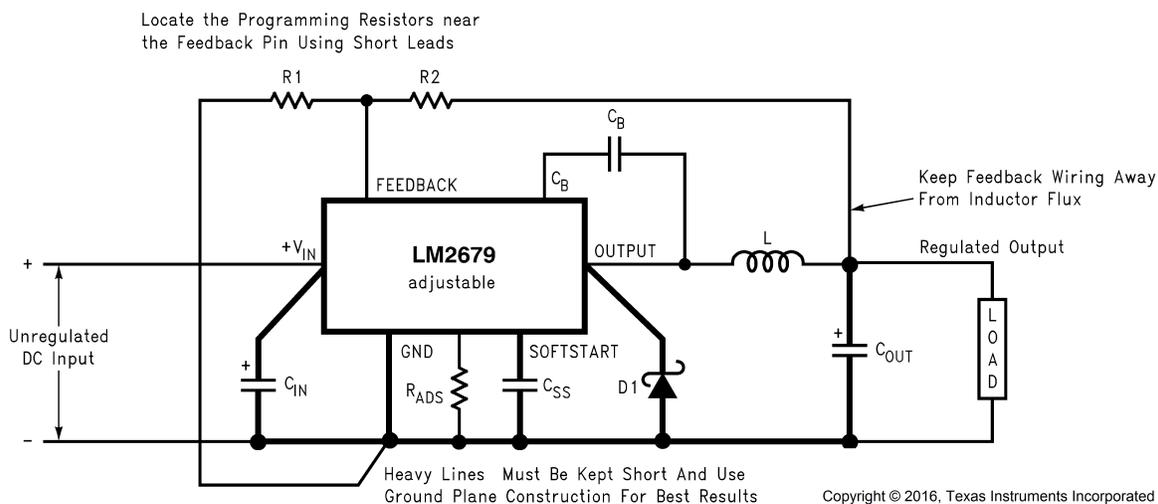

Figure 19. Basic Circuit for Adjustable Output Voltage Applications
Step 2: Select an LM2679S-ADJ. To set the output voltage to 14.9 V, two resistors need to be chosen (R1 and R2 in Figure 19). For the adjustable device, the output voltage is set by Equation 3.